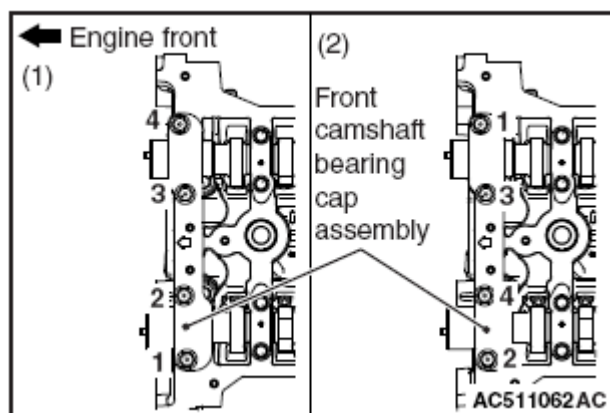

Fig. 69: Identifying Front Camshaft Bearing Cap Bolt Tightening Sequence
1. Install the front camshaft bearing cap to the cylinder head, and temporarily tighten the front camshaft bearing cap to the specified torque in the order of the **Fig. 69**.
2. Tighten the front camshaft bearing cap again to the specified torque in the order of the **Fig. 69**.